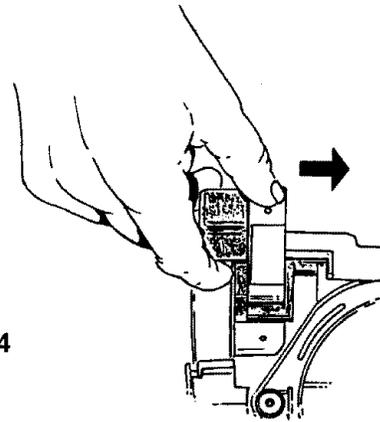

**Fig. 23**
1. Remove trunnions - two screws in each. (Fig. 23)